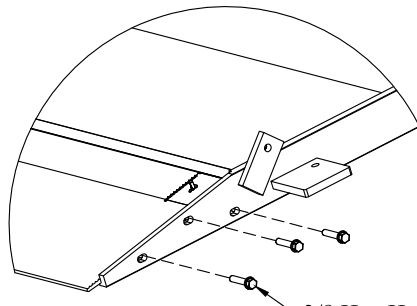

Figure 2: Screws removed.
2. **Remove** the six (6) 3/8" hex cap screws, three (3) per side (Figure 2).